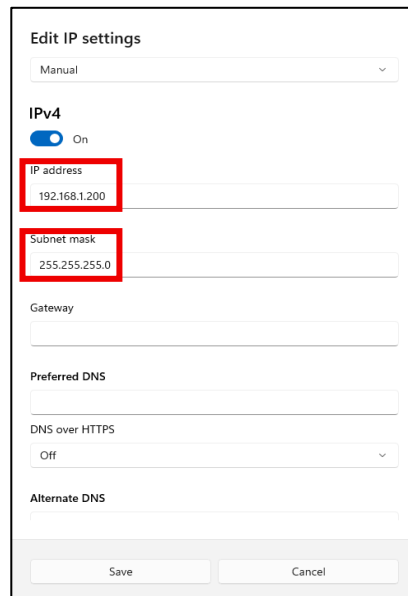

Figure 3: Network setting W3
- V) Additional settings will pop-up, fill up IP address and Subnet mask as shown below and click on **Save button**. Note: last number of IP addresses should be different from IP addresses of device. Example: If device IP is **192.168.1.100** you need to use different, for example **192.168.1.200**, subnet mask is always **255.255.255.0** see bellow Figure 3: Network setting W3